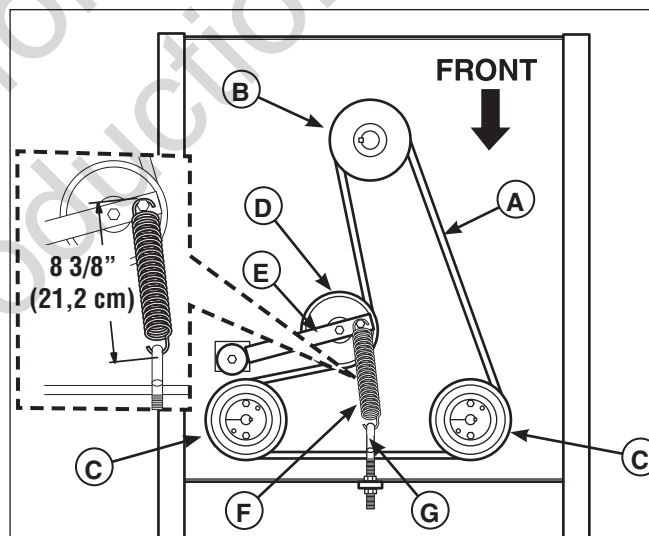

Figure 37. Hydraulic Pump Drive Belt Replacement
4. Loosen the nut towards the front of the machine on the spring anchor hook (**G**, **Figure 37**) to release the majority of the belt tension. Use caution and remove the nut to completely release the tension.